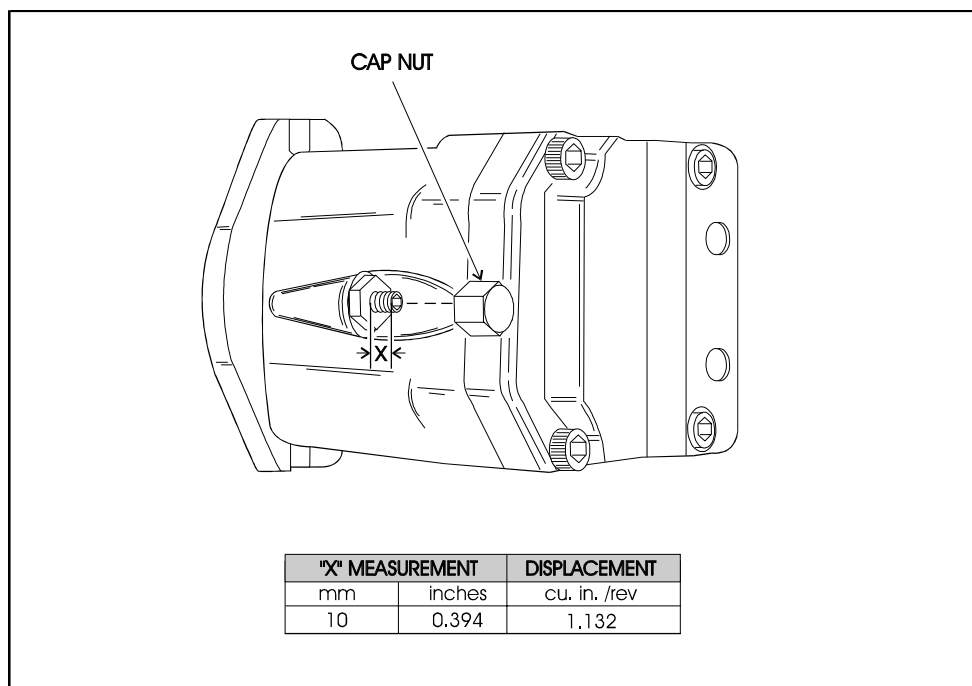

Figure 2-29. Drive Motor Adjustment
- Install the five (5) bolts and turntable springs onto the turntable.
- Install the five (5) nuts and jam nuts on the turntable bolts.
- Measure from top of jam nut to the end of adjustment screw. (Figure 2-29., Drive Motor Adjustment)